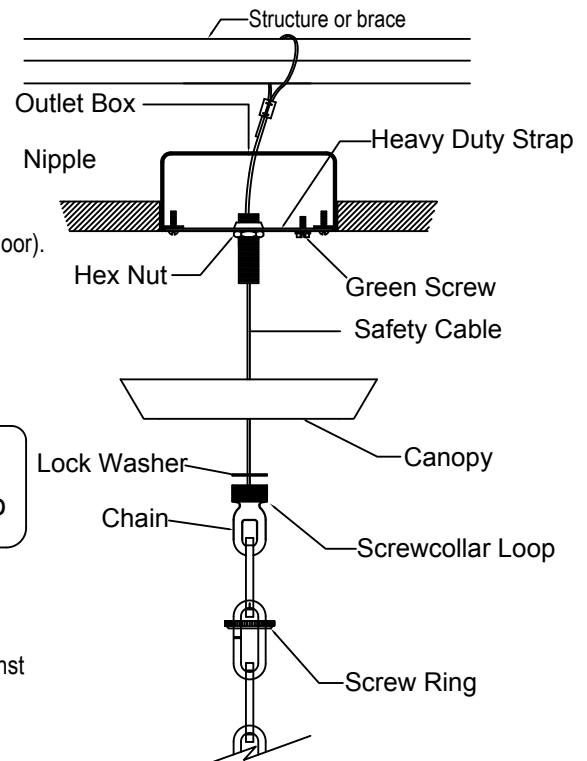

FIGURE-1
1. Attach the heavy duty strap to the outlet box. (The green screw should face the floor). Attach the safety cable to the building structure or brace. See figure-1.